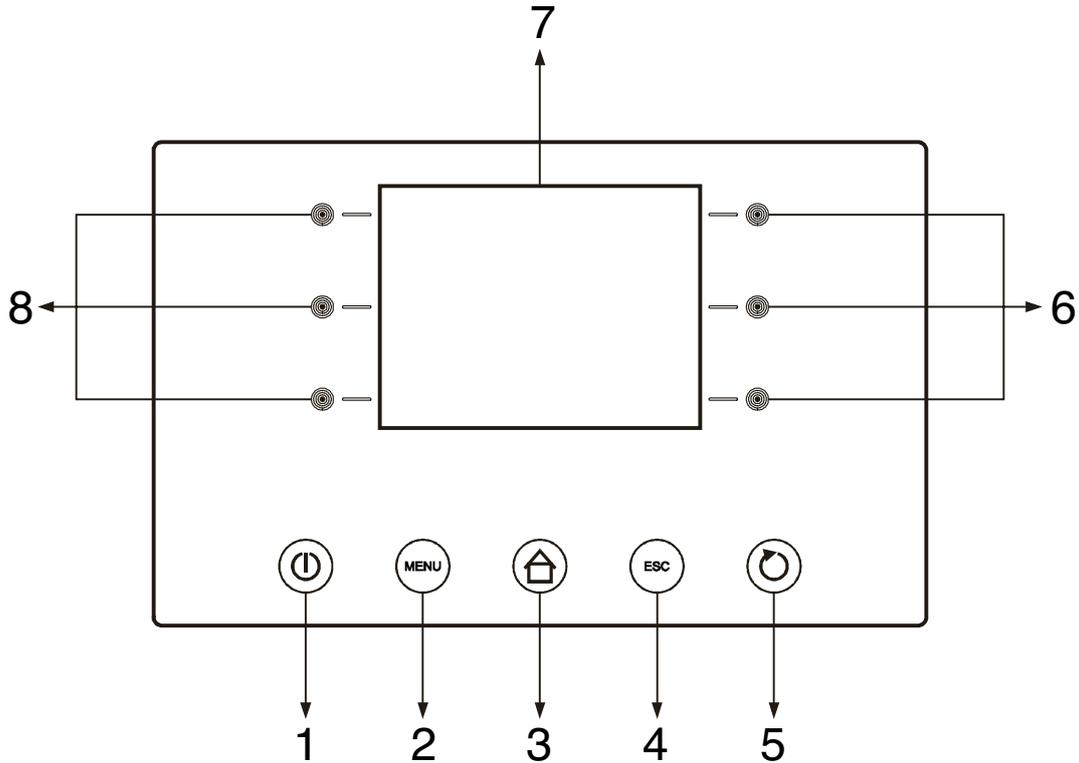

Fig.3
9.1 Description of the controls and buttons (Fig. 3)
9.2.2 Internal Clock setting: Set date and present time (fig.3)
9.2.3 Language setting (fig.3)